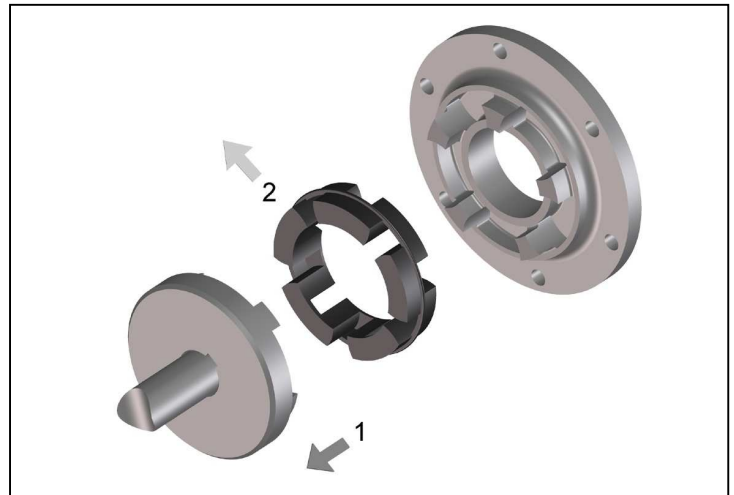

Fig. 10
- Pull back the shaft with mounted coupling hub (Figure 10, Pos.1).
- Remove the intermediate ring (Figure 10, Pos.2).